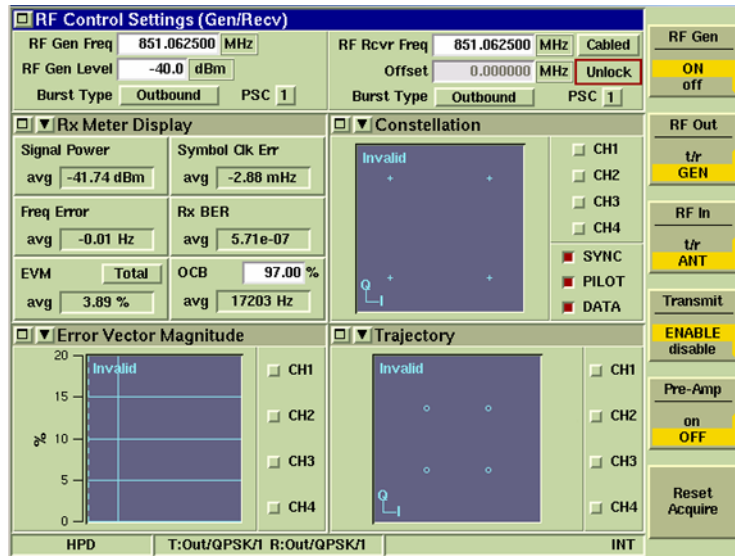

Fig. 5-3 RF Control Settings Soft Keys Enabled
8. Select the Constellation, Error Vector Magnitude and Trajectory Tiles on three of the Measurement Tiles (refer to Fig. 5-3). **Invalid** is displayed in the upper left hand corner of these three display Tiles until a channel is enabled.